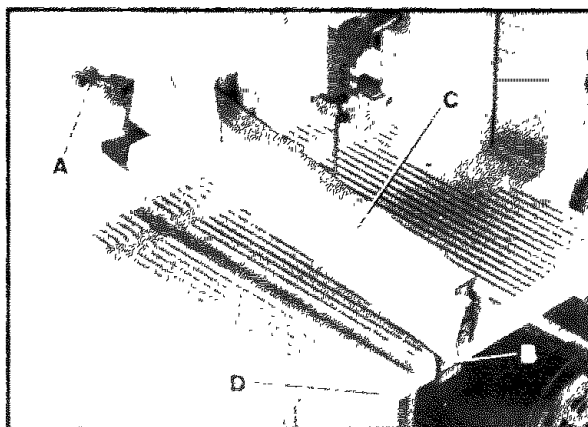

Fig. 8
1. With lever (A) (Fig. 8) in the raised position as shown, assemble rear clamp (B) of rip fence (C) over lip of table (D).